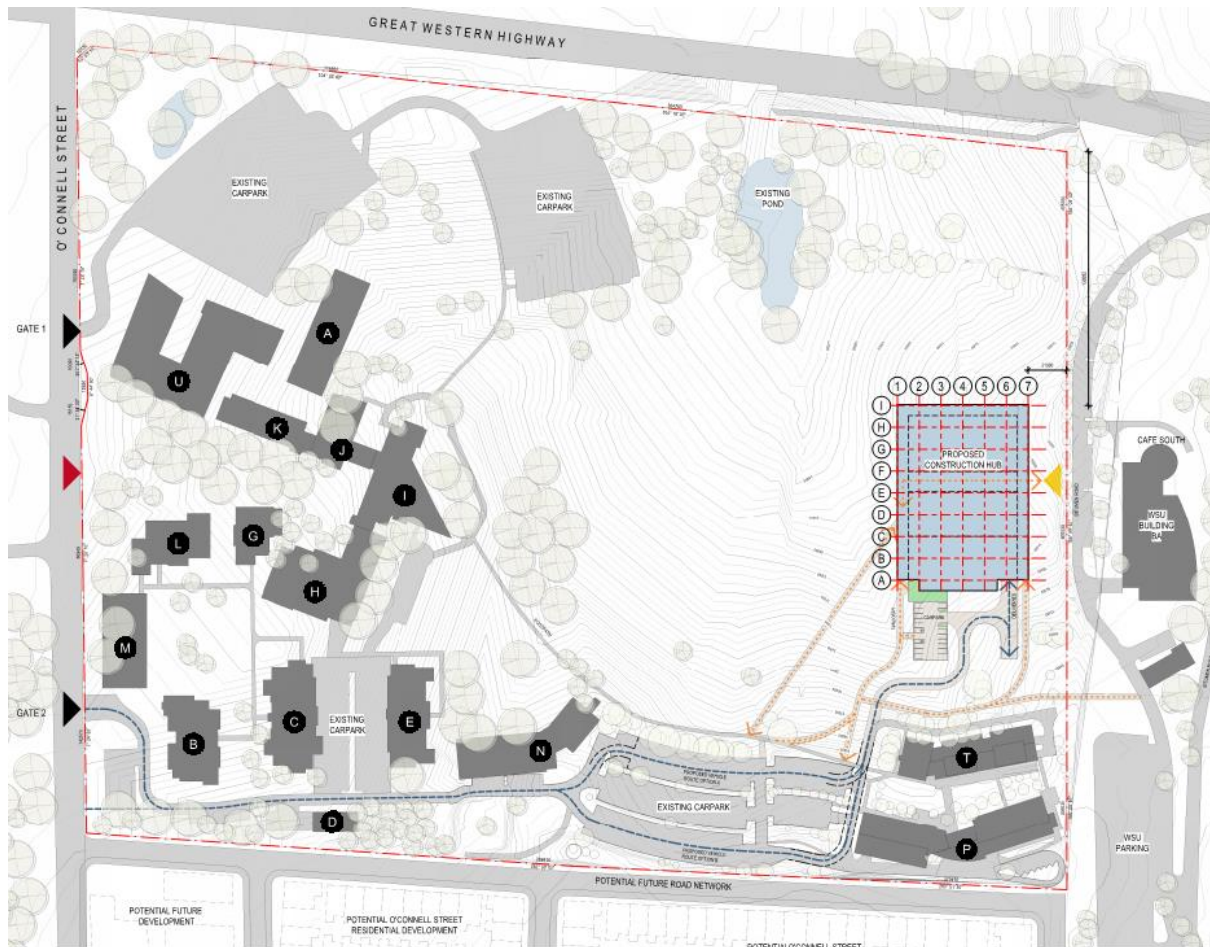

Figure 1 – Aerial Overview of Subject Site (Obtained from SIX Maps: <https://maps.six.nsw.gov.au/>)
The Western Sydney Construction Hub is located at the TAFE NSW Kingswood Campus, in the suburb of Kingswood within the Penrith City Council Local Government Area (LGA). The site is located at 2-44 O'Connell Street, Kingswood otherwise known as Lot 1 in Deposited Plan (DP) 866081. This site is bound by the Great Western Highway to the north, the Western Sydney University, Werrington Campus to the east, Residential Properties to the south and O'Connell Street to the west. Figure 1 presents an aerial overview of the subject site in its current state.